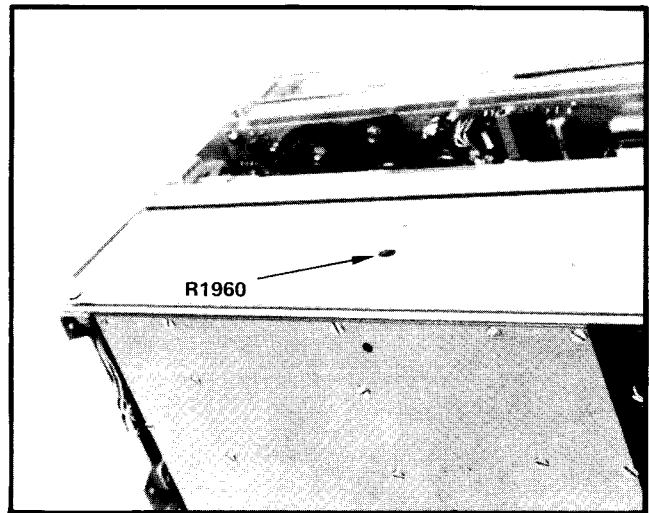

Fig. 4-9. Location of R1069, Sweep Driver adjustment for the 16-19 MHz oscillator.
h. Adjust the 16-19 MHz sweep gain with R1960, (Fig. 4-9) for 1 marker/2 divisions.